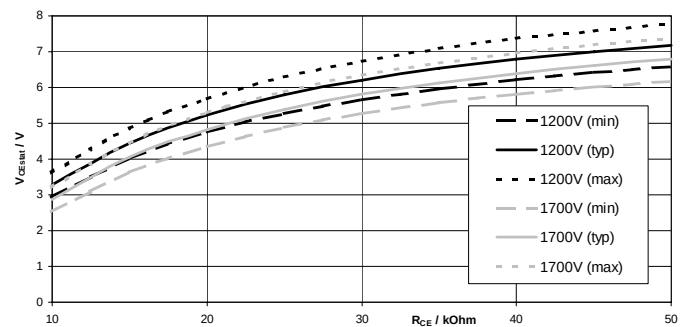

Fig. 4  $V_{CEstat}$  in dependence of  $R_{CE}$  ( $T_{amb} = 25^{\circ}\text{C}$ )
2. Calculate approximate value of  $R_{CE}$  according to equation (1) or (1.1) from  $V_{CEstat}$  or determine  $R_{CE}$  by using fig.4.
3. Determine  $t_{min}$  and calculate  $C_{CE}$  according to equations (2) and (3).